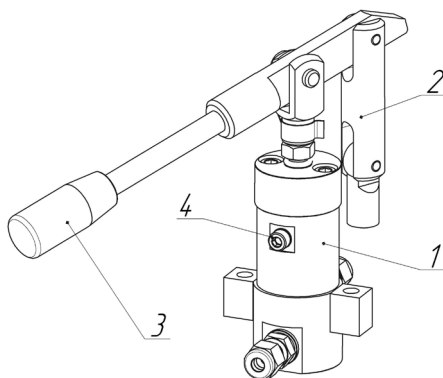

Figure 3. Manual pump
The manual pump is made as a separate unit and consists of body 1 (Fig. 3), lever system 2 and handle 3. It is installed in the hydraulic system of the pressure generator after the working fluid bucket and before the filter with the check valve.
6.6 Release screw 4 on the manual pump using S4 hex key from the pressure generator delivery set (Fig. 3) by 1/2 turn. Smoothly swing the pump handle 3 until air bubbles stop coming out from under the screw 4 seal. After that, tighten the screw 4 with a low force.